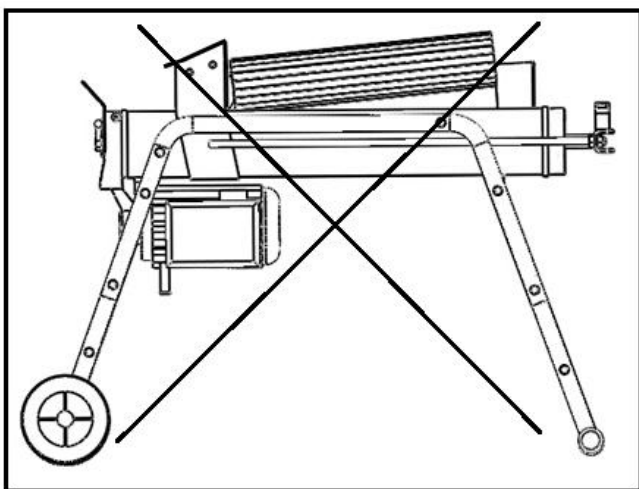

**Fig .8**
This log splitter is equipped with control system that requires to be operated by both hands of the user – left hand controls the hydraulic control lever (3) while right hand controls the push button switch (5) as shown in Fig. 8. The log splitter will freeze upon absence of either hand. Only after both hands release the controls, the log pusher starts to return backward to the starting position.